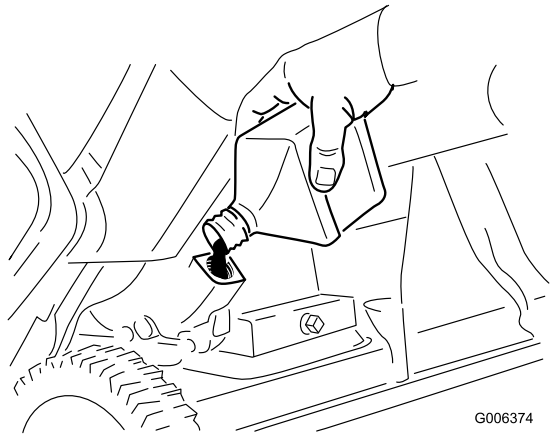

Figure 31
8. With the machine in the operating position, **carefully** pour oil into the oil fill hole to the point of overflow (Figure 31).